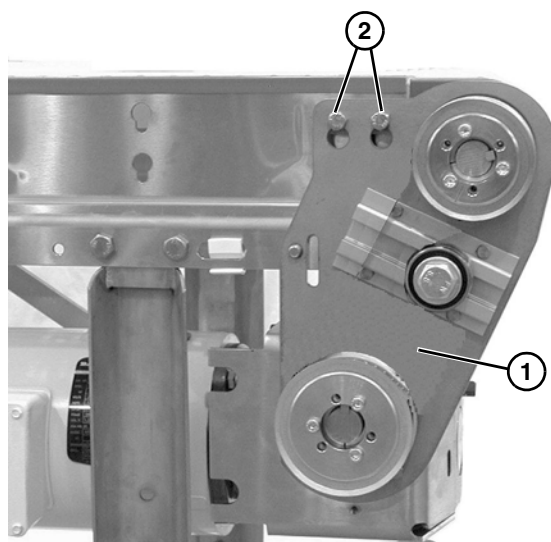

Figure 6
4. Attach mount assembly (**Figure 6, item 1**) with the two bolts (**Figure 6, item 2**).